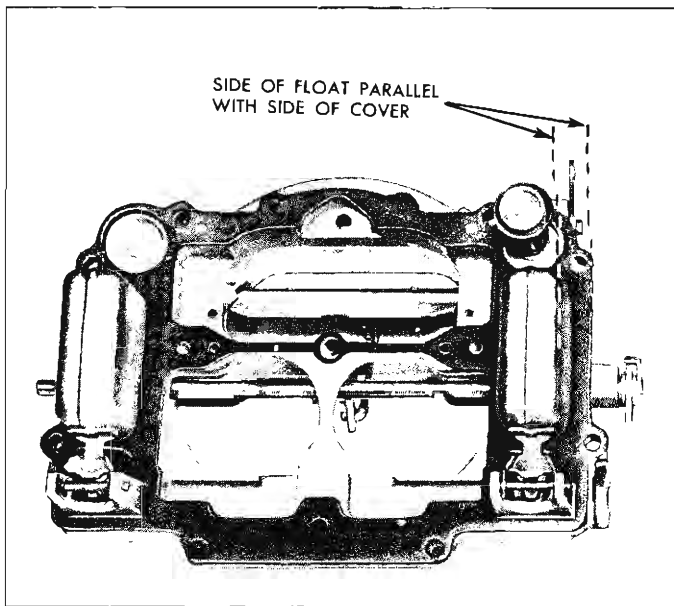

Fig. 15—Aligning Floats
5. Align Float. Sight down side of float to determine if side is parallel with outer edge of air horn. If adjustment is necessary, bend float lever by applying pressure to end of float with fingers while supporting float lever with thumb (fig. 15).